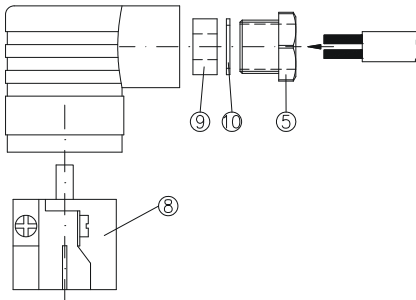

Fig. 10
- ✚ Insert the supply cable through the screwed cable gland ⑤, the pressure ring ⑩ and the rubber insert ⑨ into the cable socket ② (⇒ Fig. 10).